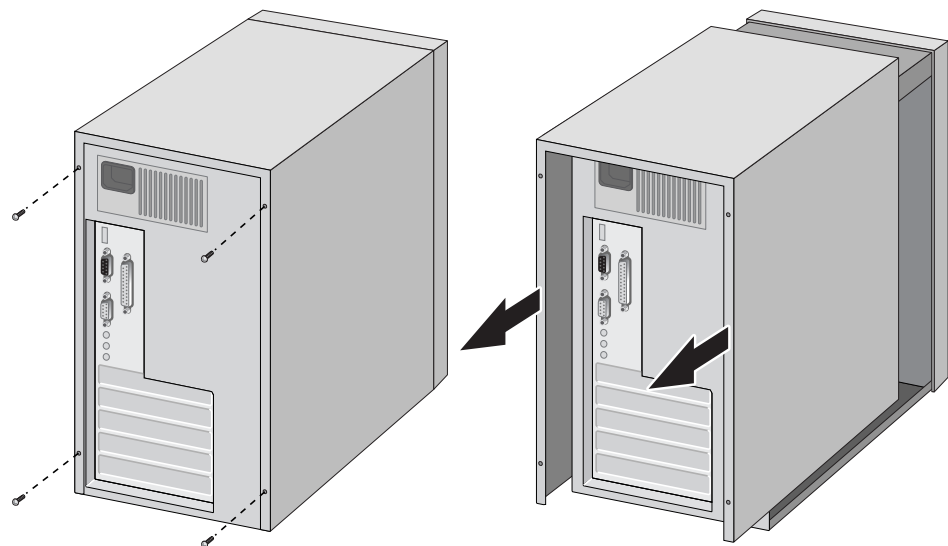

Figure 6. Removing the PC Cover
2. Remove the system cover and select any empty PCIe slot. See Figure 6.